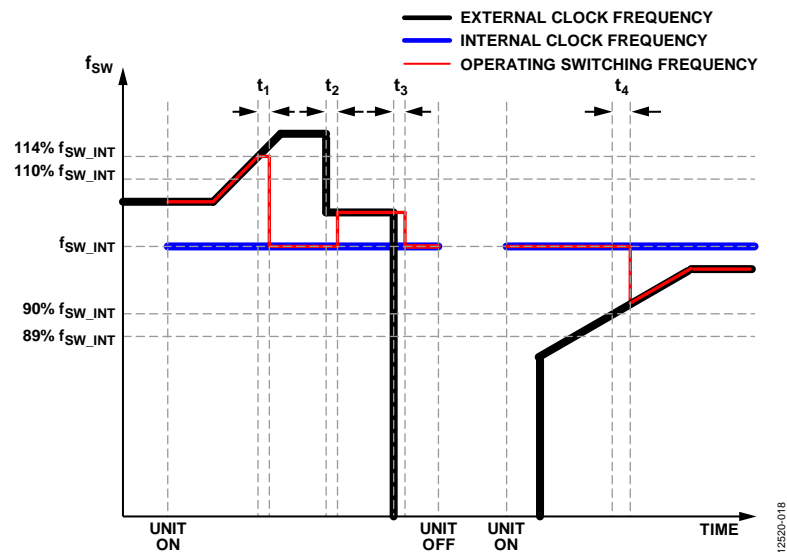

Figure 17. Synchronization Operation
2. If all the periods of the consecutive 64 most recent cycles of the external clocks fall within 90% to 110% of the internal switching clock period, the ADP1052 uses the latest current cycle as the synchronization reference, and the period of the external clock is identified. This interval is t_2 or t_4 , as shown in Figure 17. Otherwise, the ADP1052 discards this cycle and looks for the next cycle (frequency capture mode).
5. If the external clock signal is lost at any time, or if the period exceeds the minimum limit (89% of the internal programmed frequency) or the maximum limit (114% of the internal programmed frequency), the ADP1052 takes the last valid external clock signal as the synchronization reference source. At the same time, the phase shift between the synchronization reference and the internal clock is detected. When the phase shift falls within the phase capture range, the PWM clock returns to the internal clock set by the internal oscillator. This interval is t_1 or t_3 , as shown in Figure 17.
Figure 17 shows the synchronous operation. The internal frequency, f_{SW_INT} , is the internal free running frequency of the ADP1052. Before the synchronization is locked, the ADP1052 runs at f_{SW_INT} . The external frequency, f_{SW_EXT} , is the frequency